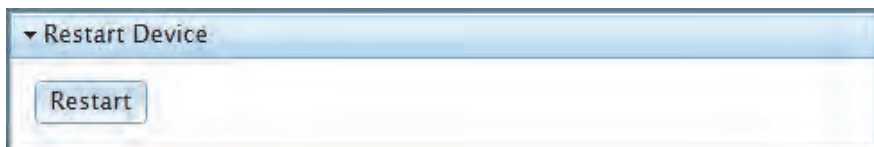

Figure 5-15. Restart Button
5. Click the **Restart** button in the **Restart Device** section. See Figure 5-15.